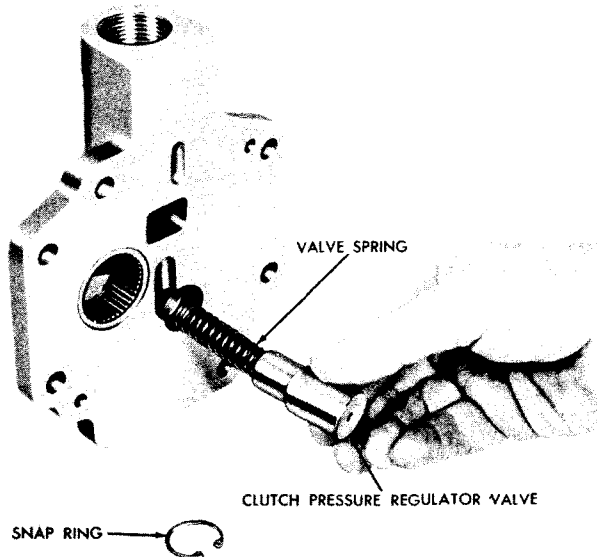

Fig VI-47. Removing (or installing) clutch pressure regulator valve
(5) After S/N 28039: Remove the snap ring, valve, and spring from the cover (fig. VI-47).
(9) Prior to S/N 28039: Install the oil pump body cover gasket and the cover on the pump body (fig. VI-47). If the converter is equipped with a lockup clutch, install spring (54, fig. VI-44) and detent ball (53) in the oil pump body before installing the pump body cover.
(10) After S/N 28039: Install the clutch pressure regulator spring, valve, and snap ring into the cover (fig. VI-47). Then proceed as in (9), above.
(11) Install six bolts and lock washers in the pump cover.